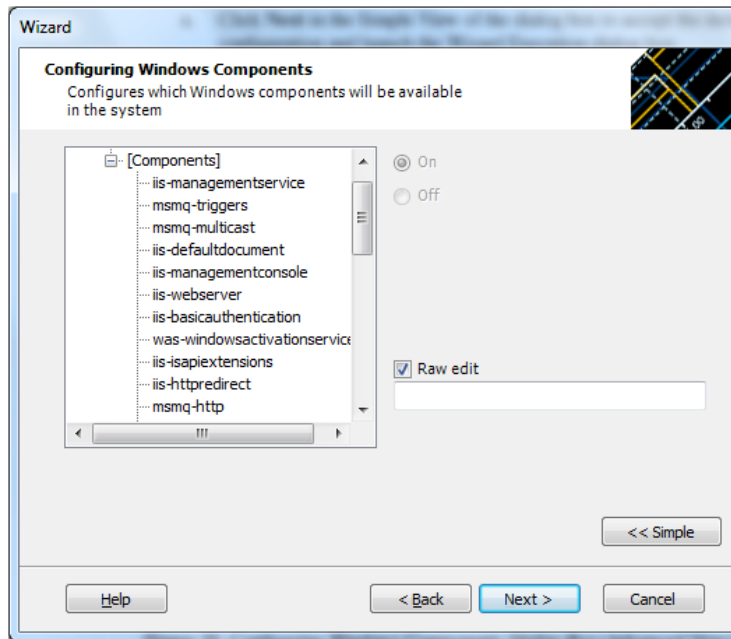

Figure 35. Configuring Windows Components Dialog Box (Advanced View)
- b. Click **Advanced** to switch to the Advanced View (Figure 35), where the components that will be configured are listed. Click **Next** after viewing the components list.